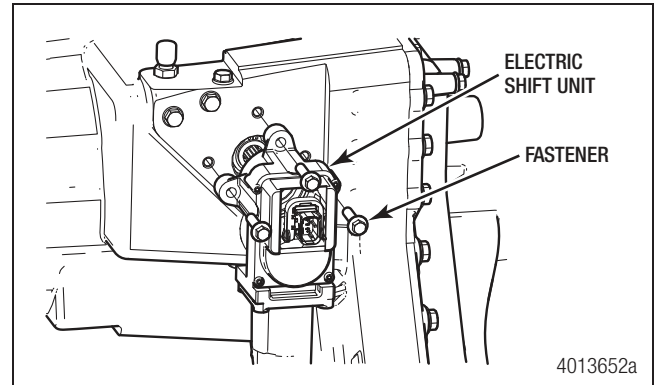

Figure 7.41
- Align the shift unit shaft with the gear teeth inside the housing. Figure 7.41.